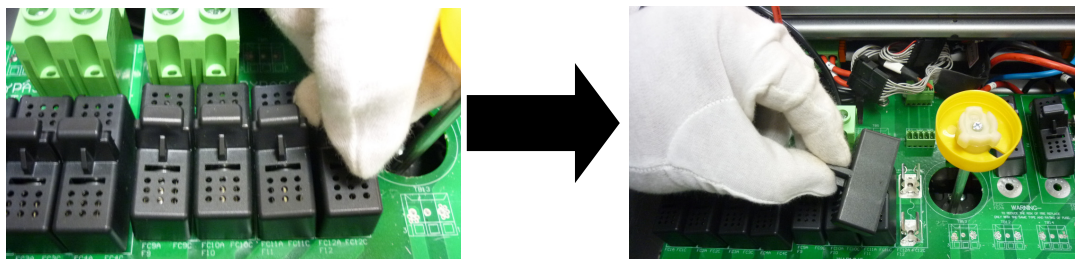

Figure 9.3.1: Remove the fuse cover
A) Remove the fuse cover from the fuse holders as shown in figure 9.3.1: